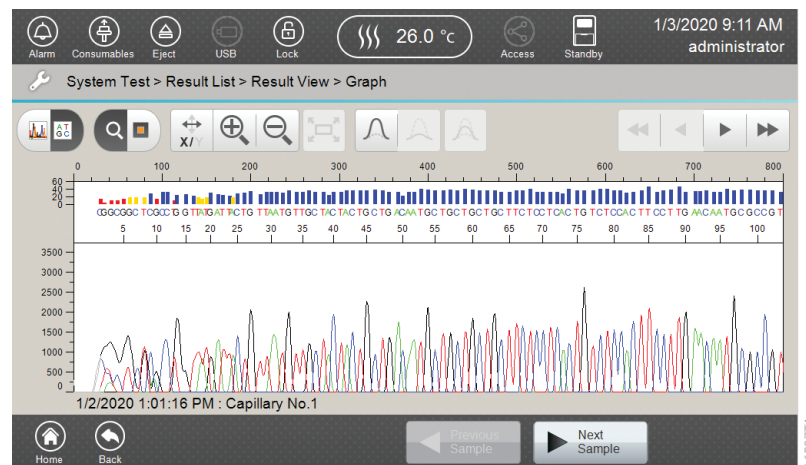

Figure 231. Sequencing System Test 'Graph' screen of selected sample.
- Select **View** in the footer to view the data for that sample in the 'Graph' screen (Figure 231). See 'Results' Tab in Section 5.7, Monitoring a Run, for definitions of the navigation icons on this screen and how to use them.